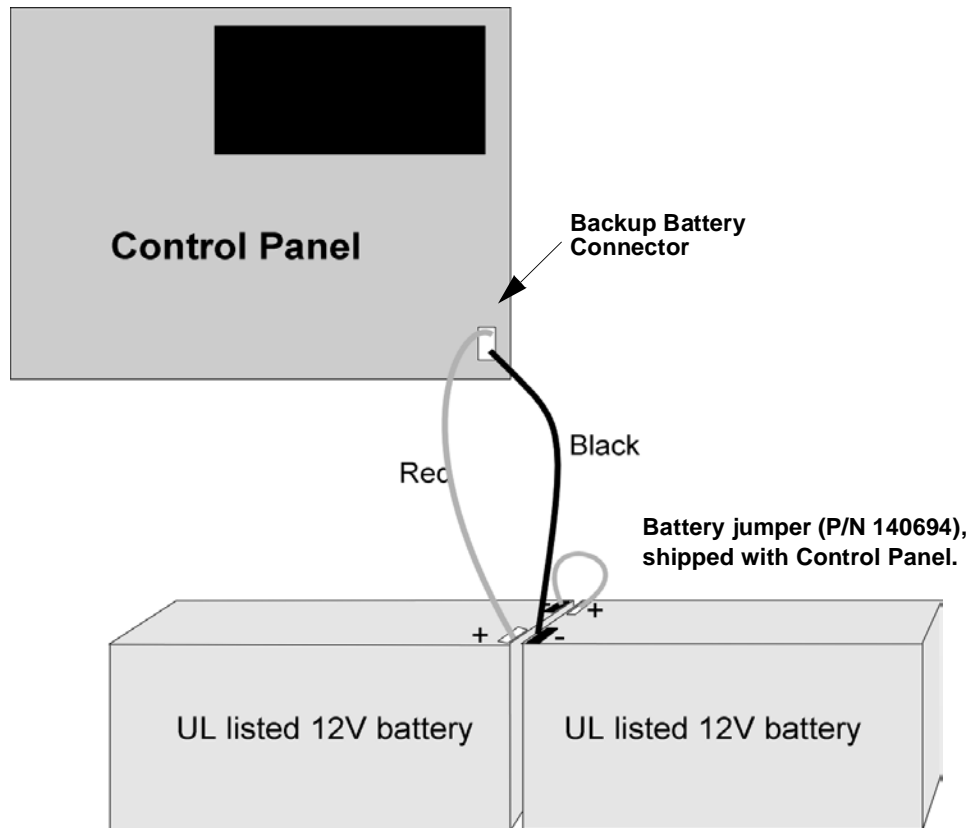

Figure 4-2 Battery Connection
2. Unplug the battery connector from the SK-4224 control panel. See Figure 4-2.
5. Reconnect the battery connector to the SK-4224 control panel. See Figure 4-2.